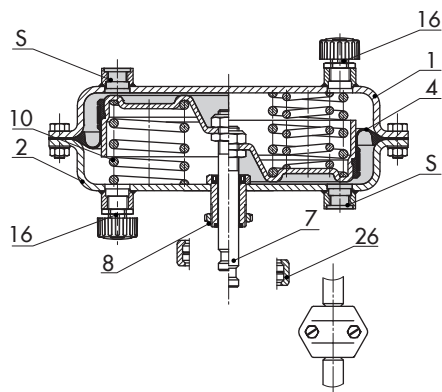
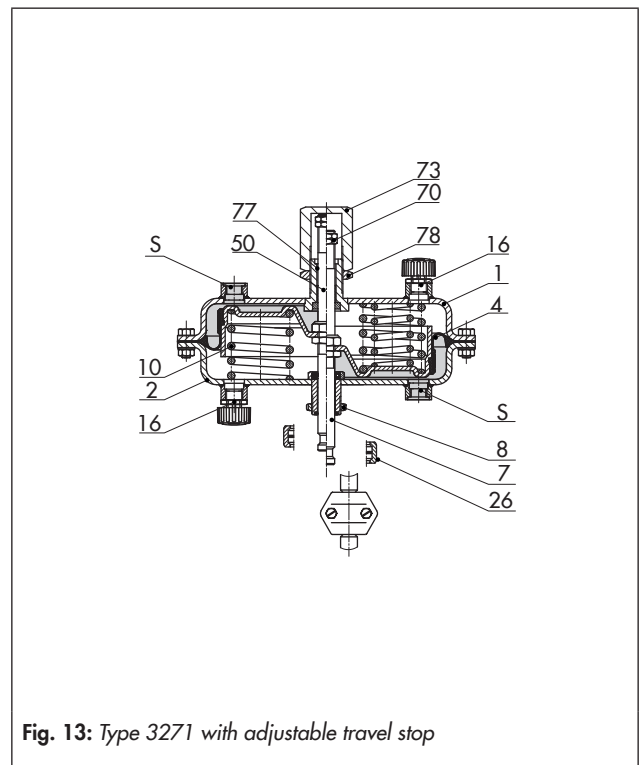

Fig. 7: Type 3271 - Right: with additional springs
Fig. 13: Type 3271 with adjustable travel stop
- **Type 3271 · Travel stop** (Fig. 13), minimum and maximum travel mechanically adjustable in versions with 175v2 to 750v2 cm²
The adjustable **mechanical travel stop** (Fig. 13) is suitable for actuators with actuator areas of 120, 175v2, 240, 350v2, 355, 700 or 750v2 cm². Using the travel stop, the actuator travel can be limited by up to 50 % in both directions (actuator stem extends or retracts) and permanently adjusted.
Legend for Fig. 7 to Fig. 13